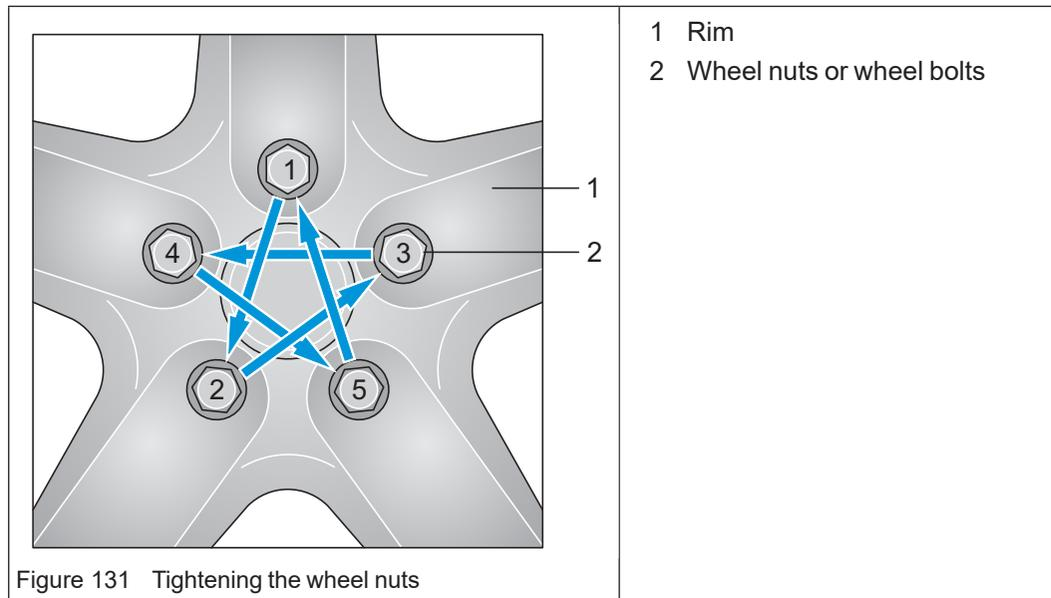

Figure 131 Tightening the wheel nuts
- Tighten the wheel nuts or wheel bolts (Figure 131/2) in the sequence 1 - 2 - 3 - 4 - 5.